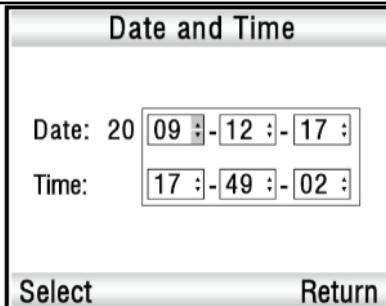

Fig.4-2
- 2) Press the Down button to select "Date and Time" item, and then press the Menu button to enter the time setup screen, refer to Fig.4-2.
Set other sub-items of data and time according to the “Year setting” illustrated in the above figures 4-2&4-3.